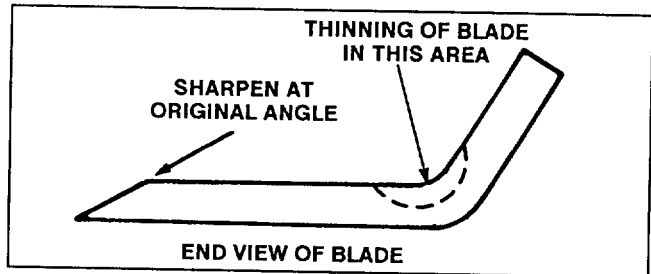

Figure 25
7. Using a file, sharpen cutting edge at both ends of the blade (Fig. 25).
Check cutter blade every time rider is tipped on end. If blade bolt holding blade is loose, tighten it to 45-60 ft-lb (61-81 N·m). If blade or sail (Fig. 25) at end of blade is worn, eroded or cracked, replace the blade. Replace the blade if it is bent or out-of-balance. Always use a genuine TORO replacement blade to ensure safety and best performance. NEVER USE A WILL-FIT REPLACEMENT BLADE.